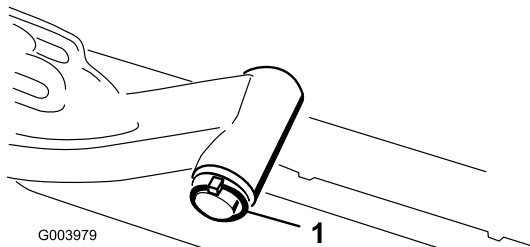

Figure 10
- A. Remove the lynch pin and washer securing the lift arm pivot shaft to the lift arm and slide the lift arm pivot shaft out of the lift arm (Figure 10).
- C. Insert the lift arm shaft into the lift arm and secure it with the washer and lynch pin (Figure 10).